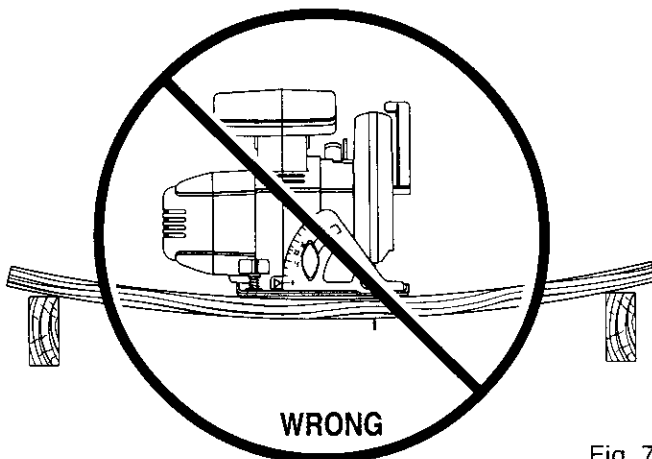

Fig. 7
- Incorrectly supporting workpiece. See Figure 7.
- To avoid pinching the blade, support the workpiece properly before beginning a cut. The right and wrong ways to support large pieces of work are shown in figures 7 and 9.